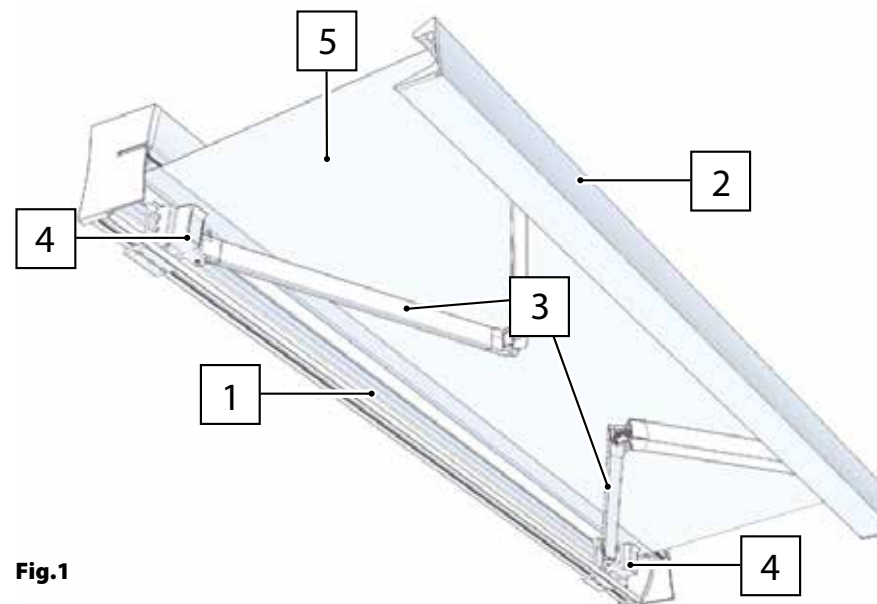

Fig.1
- The metal structure constitutes the bearing frame, which contains the various mechanisms used to open/close the awning. It comprises a box (ref. 1 fig. 1), an end profile (ref. 2 fig. 1), a pair of extensible arms (ref. 3 fig. 1), a pair of side supports (ref. 4 fig. 1).
- The fabric (ref. 5 fig. 1) protects and covers the structure.